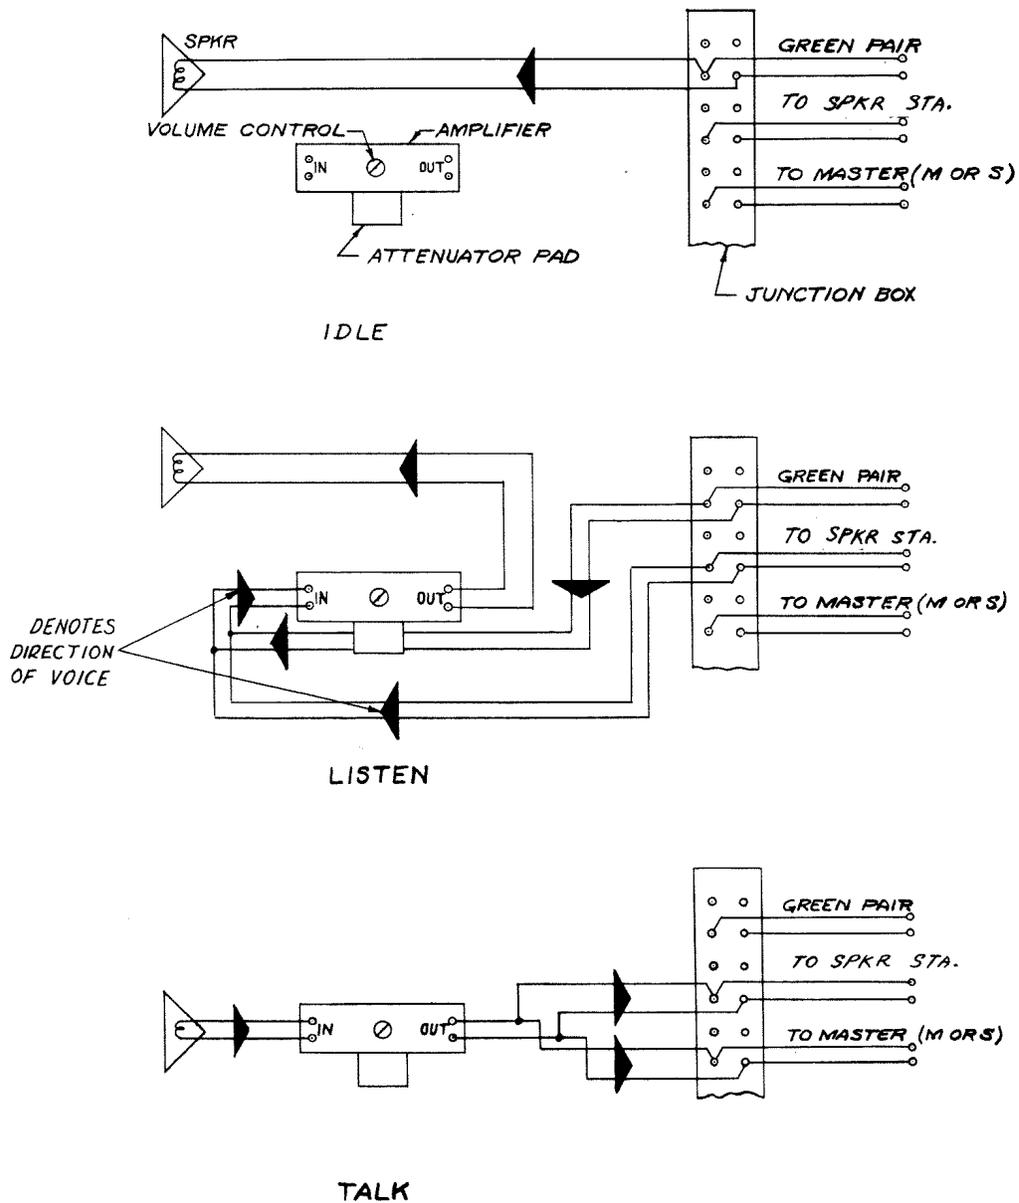

Fig. 8 - High-Level Operation
3.01 "S"-circuit operation is for high-level communication only. (For zero-level communication, "M"-circuit operation must be used.) When the talk-listen switch is in the idle position, the speaker-microphone is connected directly to the green pair (home line) of the station, and is ready to receive incoming calls from other master stations. (Refer to Figure 8.) In "S"-circuit applications, the amplifier handles outgoing and incoming speech. The high-level speech from another master is attenuated by a pad in the input of the amplifier, and is then again amplified to speaker level. This prevents double amplification.
3.02 An "M"-circuit system is composed of one or more master stations and one or more speaker stations. Any master station may talk to, and receive a reply from, any other master or speaker station in the system. The calling master station controls the direction of conversation; that is, press the talk-listen switch to the talk position to talk to the other station, and release it to the listen position to hear the reply. The idle position is for receiving calls. The switch should be kept in this position when not in use. The volume control regulates the volume for both ends of the conversation. (Refer to circuit operation shown in Figure 8.)